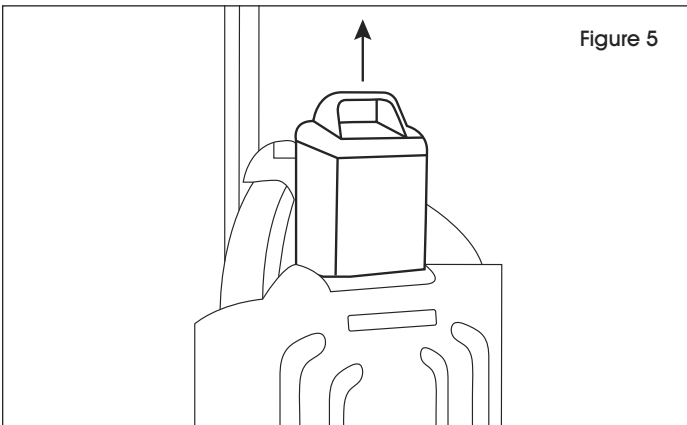

Figure 5
NOTE: When one green and one red LEDs are lit, charging is in progress. When two red LEDs are lit, charging is complete. Figure 5 shows the top view of the charger base contact pins; make sure to plug in the battery accordingly. If the battery is not fully charged after more than five hours, contact Uline Customer Service at 1-800-295-5510.
1. Lift the battery out of the vehicle. (See Figure 5)